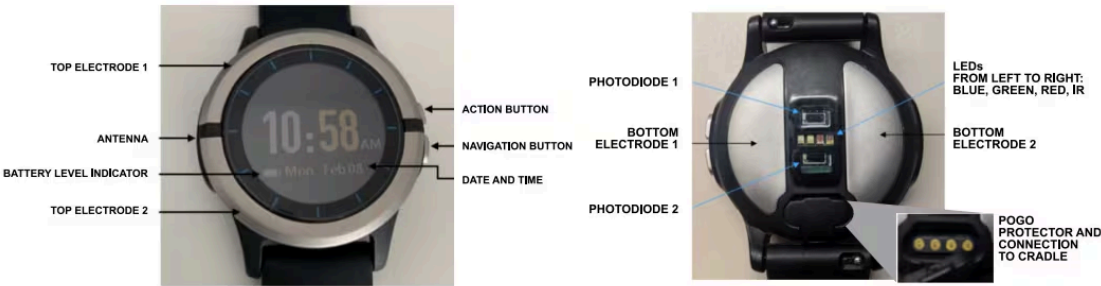

Figure 4 – Analog Devices Vital Signs Monitoring (VSM) Watch with top and bottom electrodes
- Electrode material and surface area making contact with skin (big difference between exercise electrodes and a smaller form factor like the ADI VSM watch shown in Figure 4)